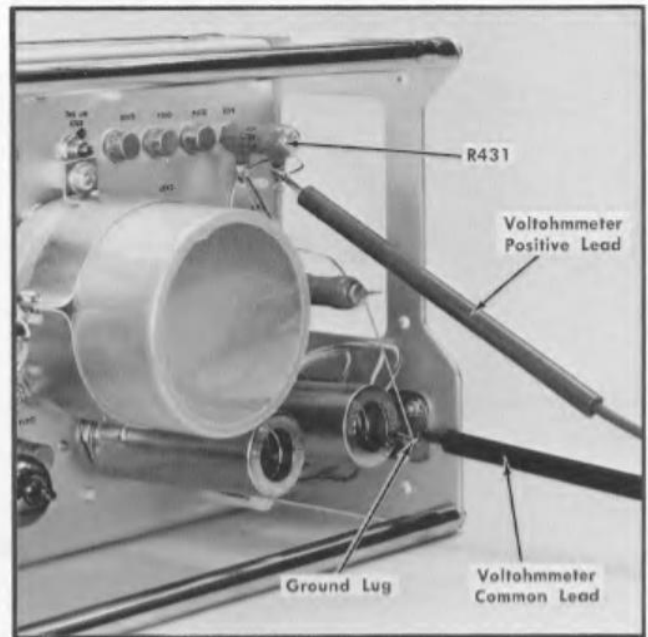

Fig. 6-7. Location of R431 and test points.
- c. Connect the meter common lead to ground on the Type 2A61. A convenient ground lug is shown in Fig. 6-7.
- d. Connect the meter positive lead to the white-red lead on R431, as shown in Fig. 6-7.